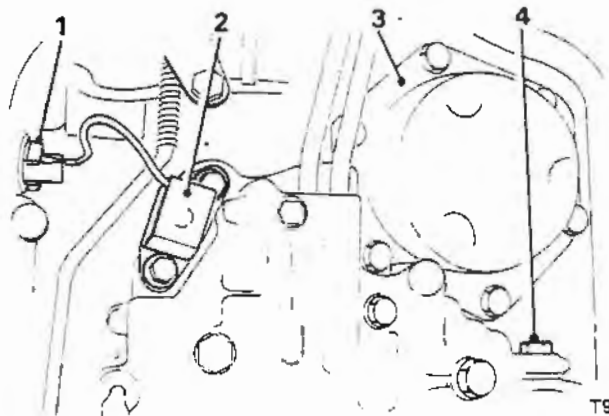

Figure 9 - Gearbox Connection and Blanking Plug to be Changed and Removed
- 2 Remove the pressure switch blanking plug shown in Figure 9 and screw in the top gear pressure switch GM 6462286 supplied.